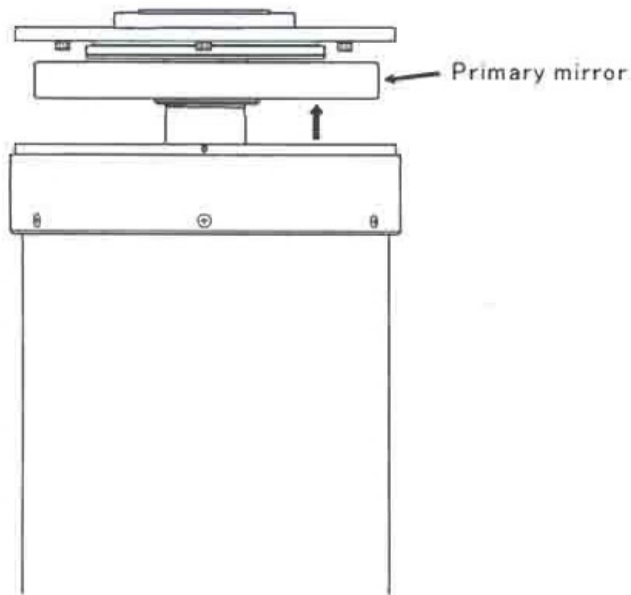

Fig. 26
5. The primary will be in view while lifting the cell. As the corrector tube is long so the primary mirror should be put aside after well cleared. Refer to the Fig.26 and 27.